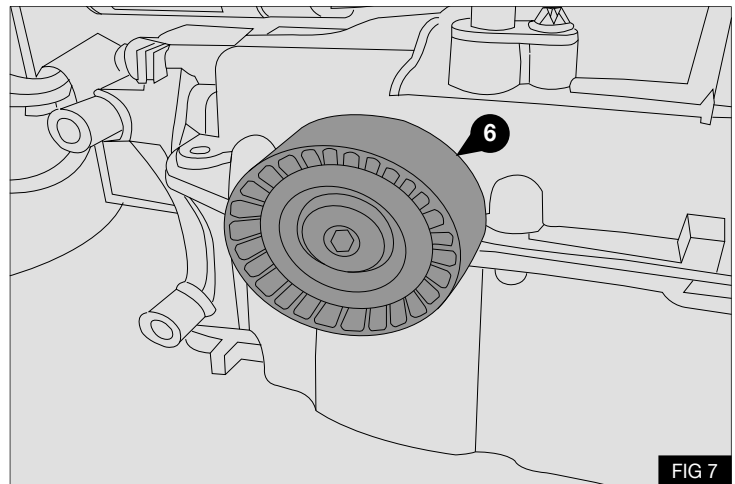

FIG 7
3. Using the supplied pulley (6) cut a thread into the hole in the sump in position shown – Fig 7
**Note:** The pulley bolt (6) has a Trilobular thread and will cut a thread as it is tightened. Take care to tighten the pulley squarely to the pulley mount face when starting the thread.
4. Remove the pulley (6).